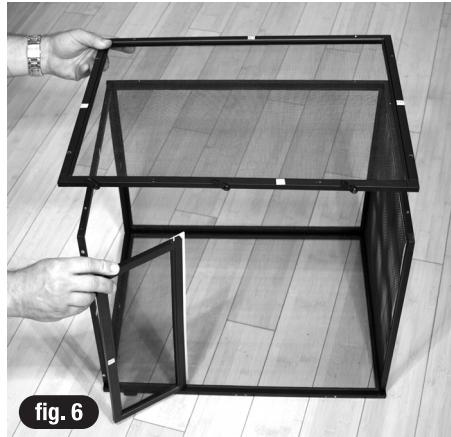

fig. 6
4. Insert LOWER DOOR hinge pin and attach LEFT SIDE PANEL (see fig. 6 and 7): Turn the assembly over so that it is resting on the Right Side panel. Locate the hole for the Bottom Door hinge pin on the inside edge of the Right Side panel. Align the "I" label on the Bottom Door with the corresponding label on the Bottom panel (the sticker must face out). Insert the right Bottom Door hinge pin into the hole on the Right Side panel. While holding the Bottom Door in place, set the Left Side panel on the assembly, making sure that the left Bottom Door hinge pin goes into the hole in the inside edge of the Left Side panel. Attach the Left Side panel using long screws. Shut the Bottom Door and rotate latches on either side to lock.